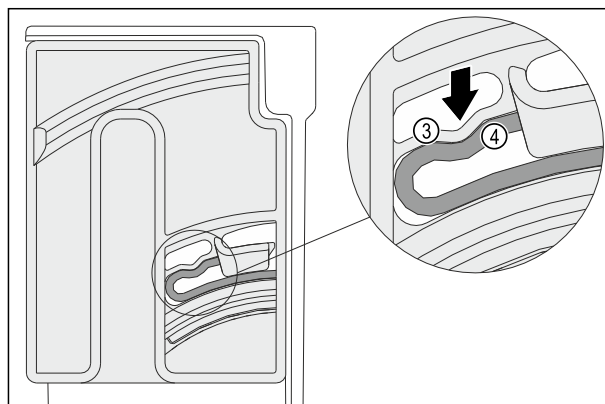

Fig. 159
- The elastic element Fig. 159 (3) of the swivel unit clicks audibly in the round mold of the ridge Fig. 159 (4).